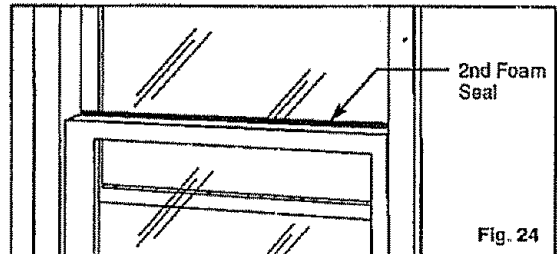

Fig. 24
- Cut the second foam seal to fit the opening between the top inside and outside window. See Fig. 24.